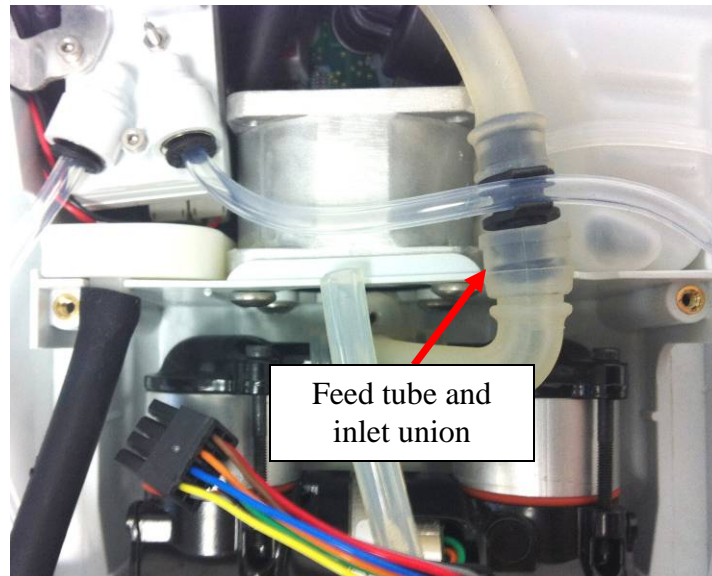

Figure 8: Remove feed tube from inlet union
4. Disconnect the singular end of the feed tube from the black inlet union using a small flathead screw driver to push the tube off of the connector (Figure 8).